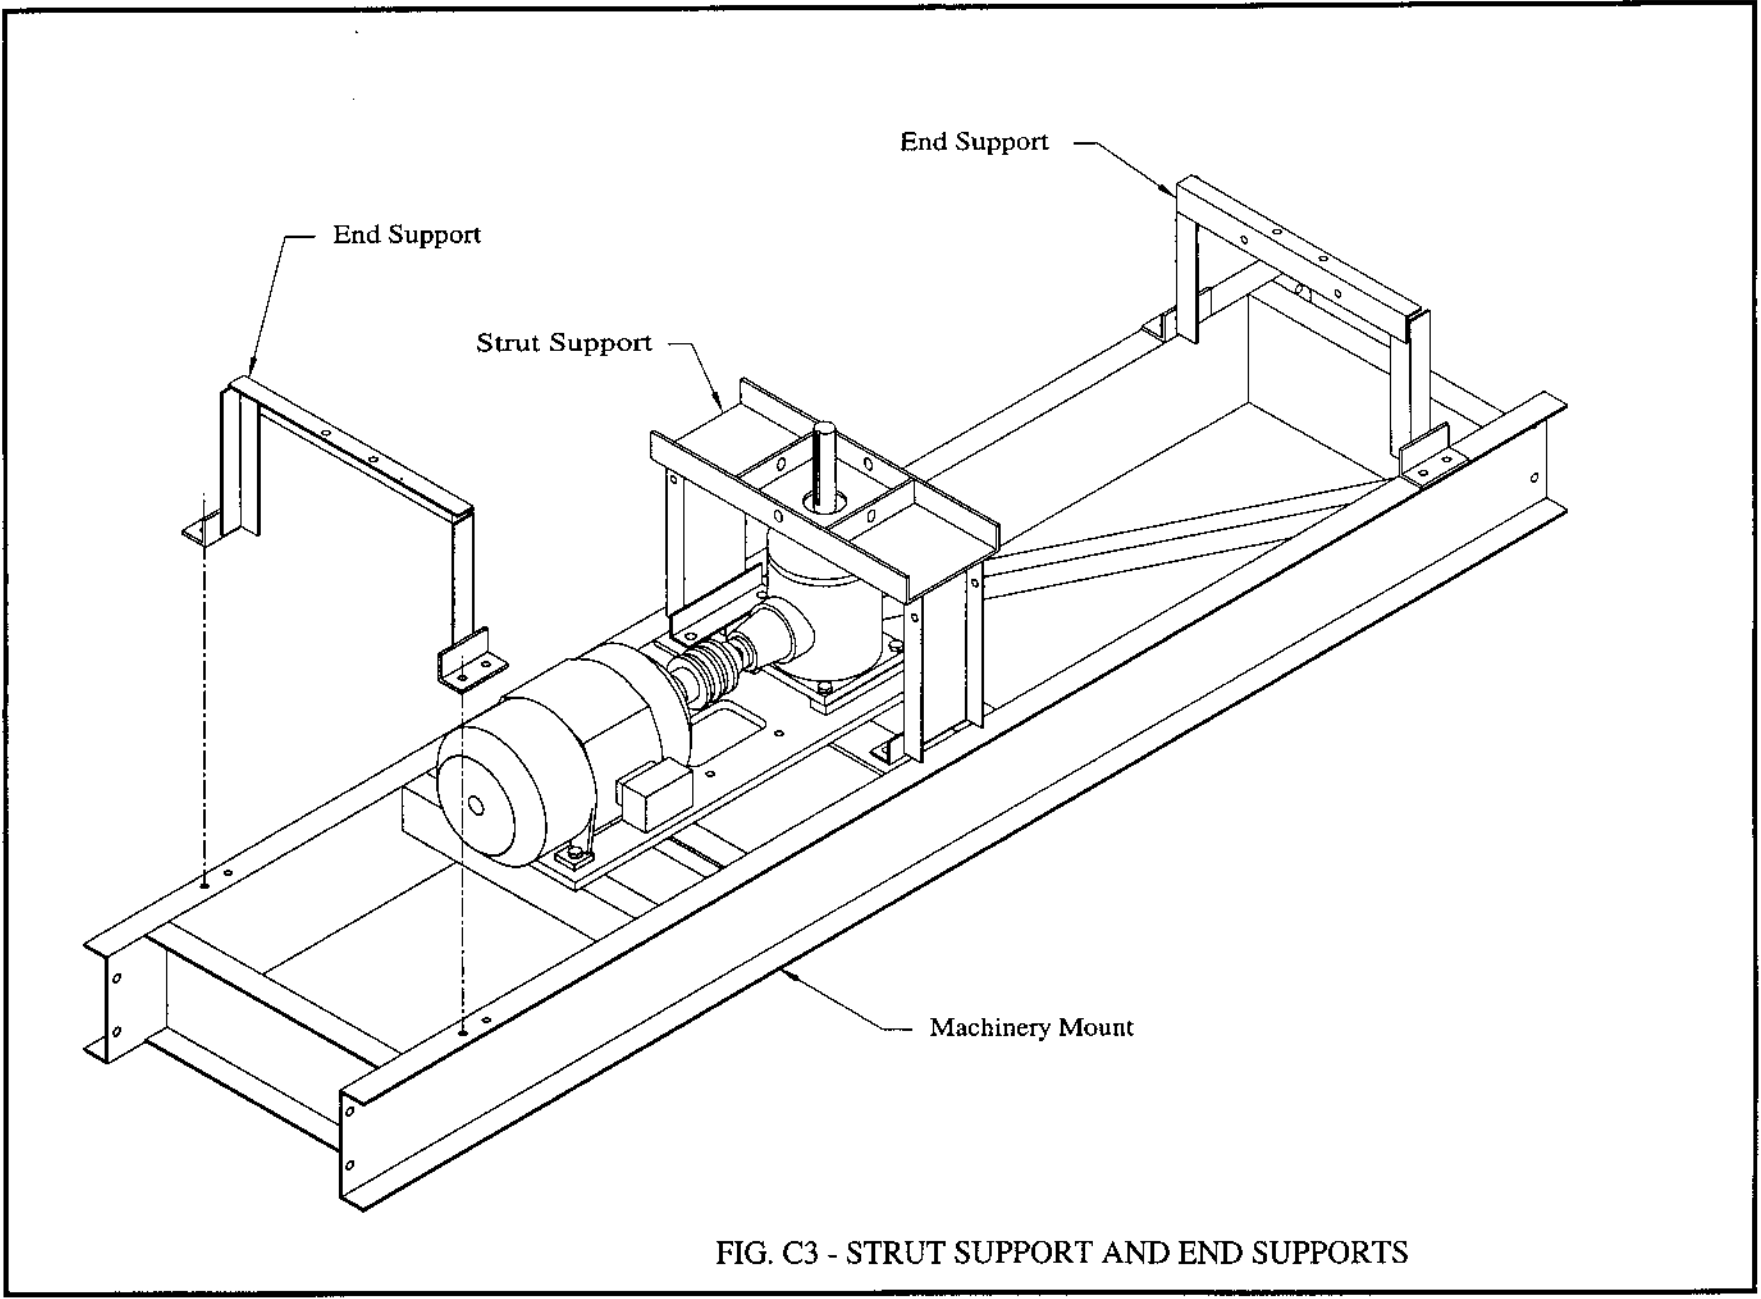

FIG. C3 - STRUT SUPPORT AND END SUPPORTS
4. Attach strut support and end supports to machinery mount. See Fig. C3.